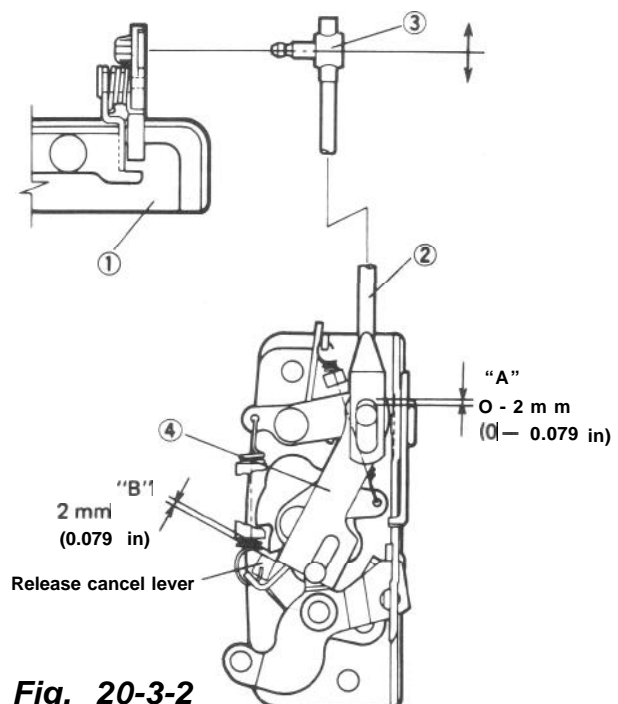

Fig. 20-3-2
When installing open rod ② onto outside open handle ①, adjust clearances "A" to 0 – 2 mm (0 – 0.079 in) and "B" to 2 mm (0.079 in) as shown in Fig. 20-3-2 by turning adjusting joint ③.